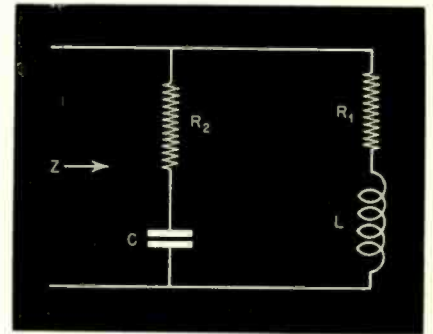

Fig. 7
**Problem:** In Problem 2 of Radio Design Worksheet No. 10 (page 23, February 1943 issue) we have the following equation for the impedance of the parallel resonant circuit shown in Fig. 7:
other currents and voltages can be simplified by use of the curves of Figs. 3 to 7, of which Fig. 7 is a summary of the peak values obtained on the other curves.